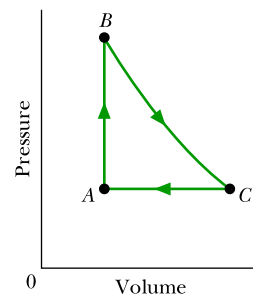

Figure 18.18 Problem 48.
**48 M** As a gas is held within a closed chamber, it passes through the cycle shown in Fig. 18.18. Determine the energy transferred by the system as heat during constant-pressure process CA if the energy added as heat  $Q_{AB}$  during constant-volume process AB is 20.0 J, no energy is transferred as heat during adiabatic process BC, and the net work done during the cycle is 15.0 J.